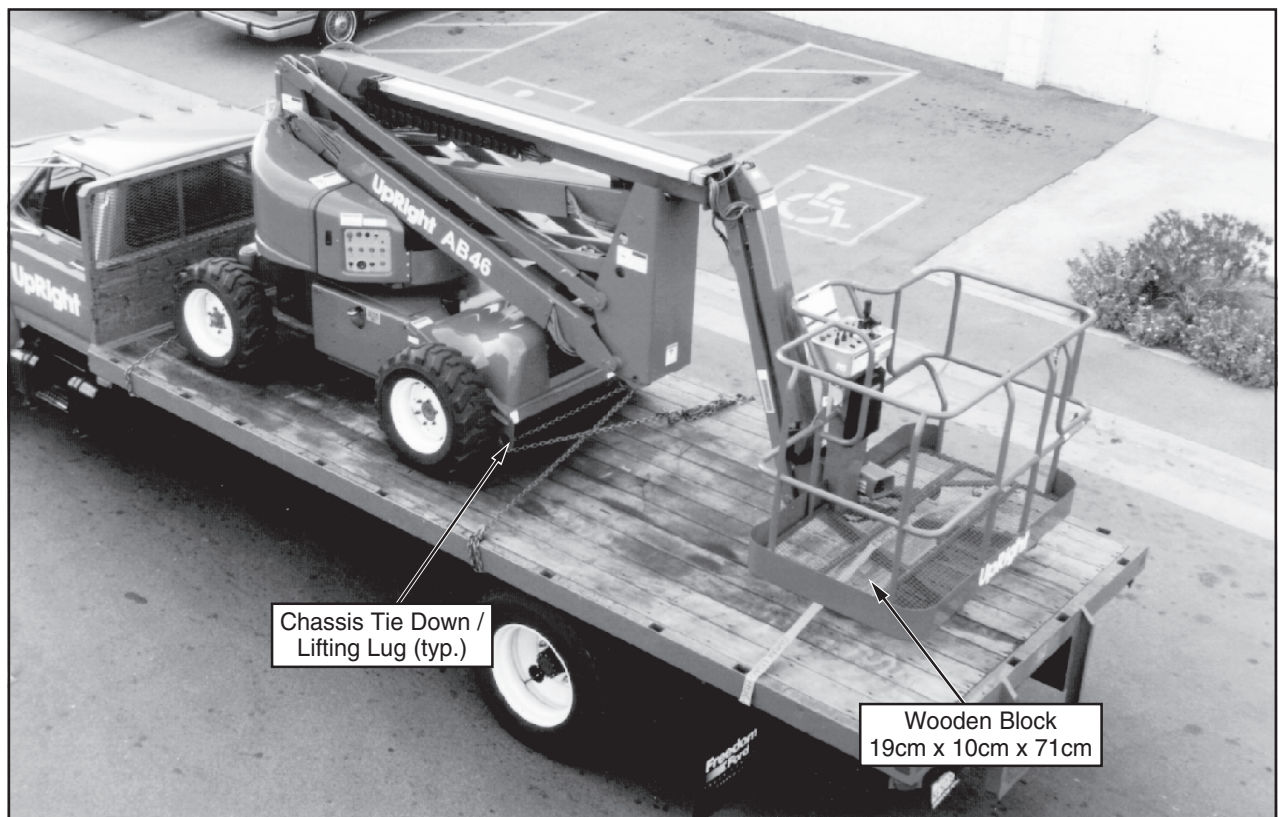

Figure 6: Securing the Machine for Transportation
5. Secure the machine to the transport vehicle using chains / straps of adequate load capacity (refer to specifications, back page) attached to chassis tie down lugs (see figure 6).
6. Place a wooden block (19cm x 10cm x 71cm [7.5" x 4" x 28"]) under platform support braces as shown (see figure 6).
7. Attach ratchet strap; under platform floor grating, over support braces (see figure 6). Tighten securely, do not overtighten.